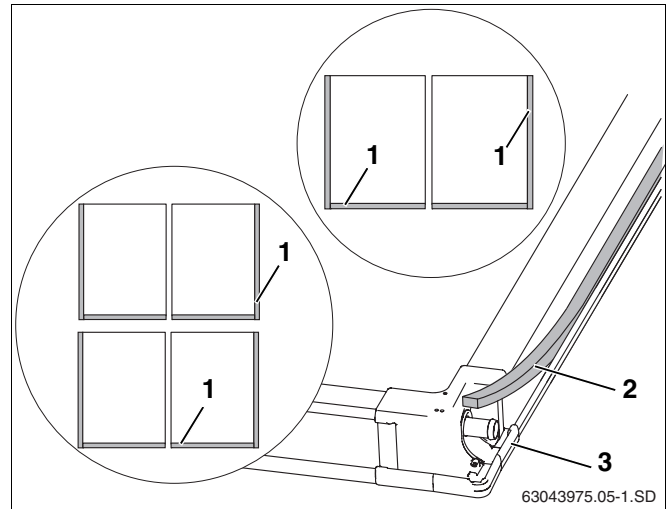

Fig. 23 Back of the collector
The connections between the side and lower facing panels and the collectors (Fig. 23, **Item 1**) must be sealed with the sealing tape.
- ▶ Insert sealing tape (Fig. 23, **Item 2**) adhesive side first into the recessed channel on the outer edges of the outer collectors and at the bottom of every collector (Fig. 23, **Item 1**) incl. the corner connector (Fig. 23, **Item 3**).